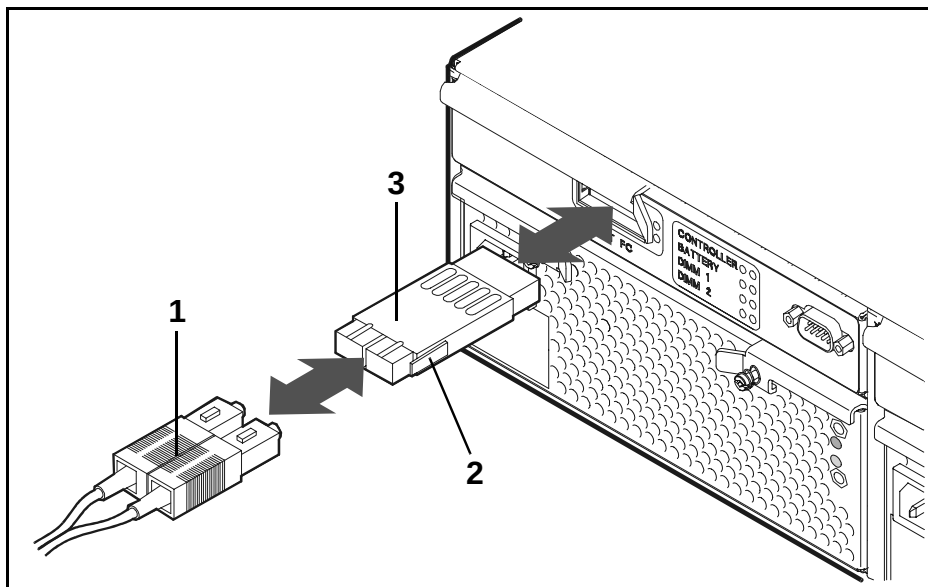
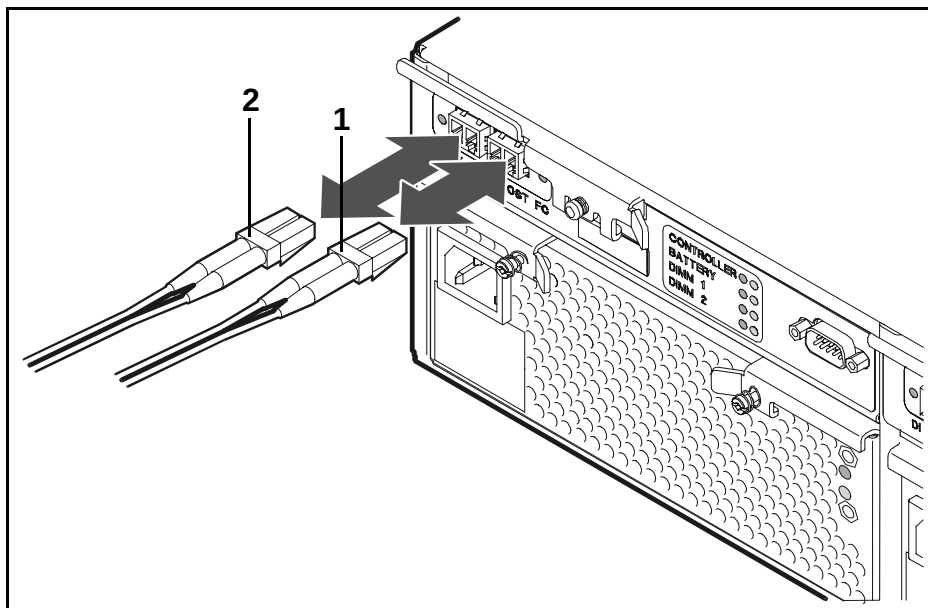

Figure 29 Removing & Replacing a Fiber Optic Cable & GBIC (Type A Array Controller Card)
Figure 30 Removing & Replacing Fiber Optic Cables (Type B Array Controller Card)
See Figure 29 and Figure 30 to remove and replace fiber optic cables.
- SC connectors (Figure 29, 1) are large form factor connectors that plug into the GBIC (Figure 29, 2) on Type A array controller cards. The GBIC then plugs into the HOST FC connector on the array controller card.
- LC connectors (Figure 30, 1 and 2) are small form factor connectors that plug directly into the DISK FC and HOST FC connectors on Type B array controller cards.
1. Remove the fiber optic cable (Figure 29, 1).
2. Push in the GBIC tabs (Figure 29, 2) and gently pull the GBIC (3) out of the HOST FC slot.
2. With even pressure, gently push the GBIC (Figure 29, 3) into the HOST FC slot until it clicks into place.
3. Replace the fiber optic cable (Figure 29, 1).
2. **Type A:** Remove the fiber optic cable from the GBIC (see Figure 29). **Type B:** Remove the fiber optic cables from the DISK FC and HOST FC connectors (see Figure 30).
3. **Type A only:** Remove the GBIC (see Figure 29, 3).
9. **Type A only:** Replace the GBIC (Figure 29, 3).
10. Replace the fiber optic cables (see Figure 29 or Figure 30).